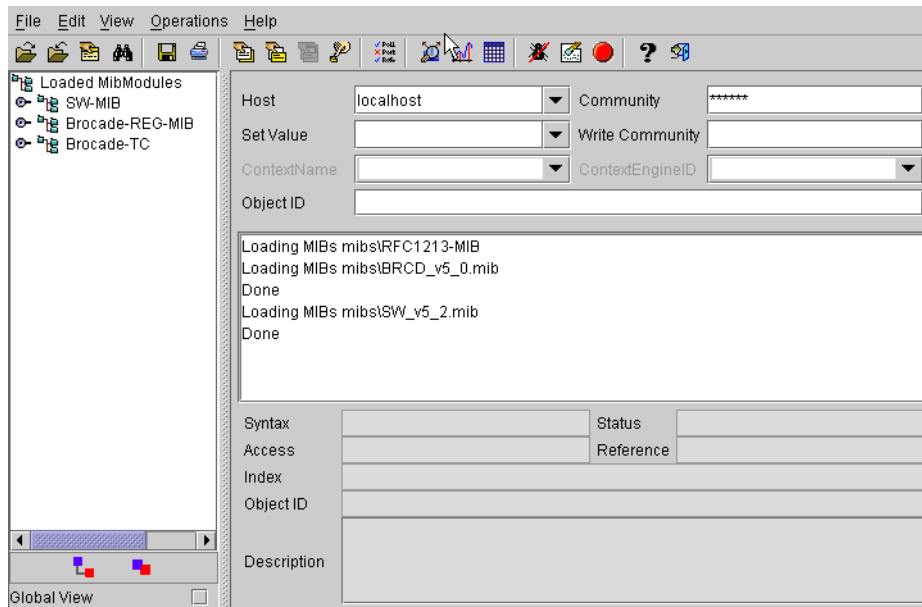

FIGURE 5 Configuring Fabric Watch using SNMP
2. Load the appropriate MIB files if you have not already done so. First load the Brocade common MIB file, SW.mib. If this is successful, the system displays a window similar to Figure 5.
In Figure 5, the MIB browser populated the left side of the window with a MIB tree that you can navigate.